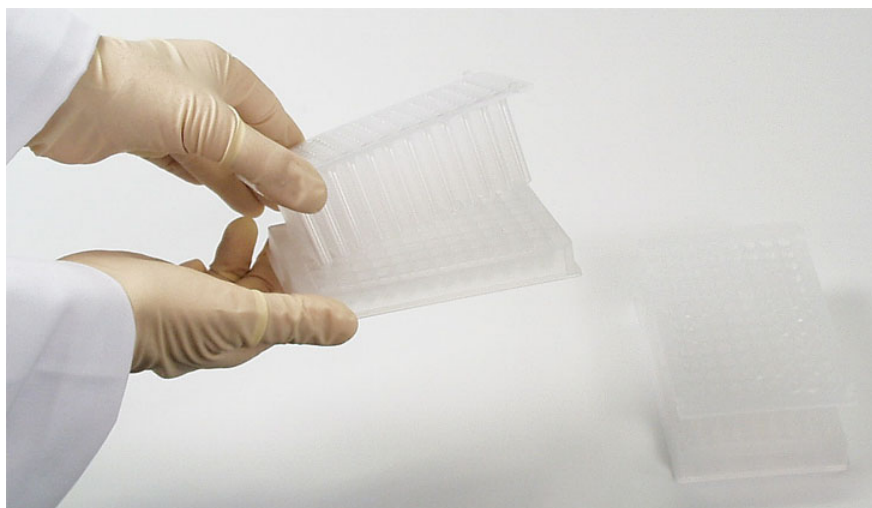

Fig. 6.4 Storing the other tip comb on a MagMAX™ Express 96 plate for further use
3. Place the other unused tip comb on another plate for storage *to avoid bending of the tip combs* (Fig. 6.4) to ensure proper instrument operation.